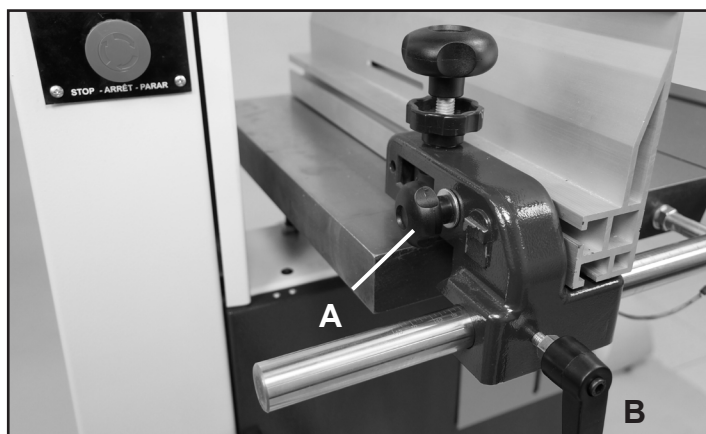

FIGURE 6
2. Slide the Fence Carrier Assembly (#9E) onto the fence's guide rail. Fig. 6.
3. Slide the Rip Fence (#18E) onto the fence carrier, and lock it in place by tightening the fence lock Knob (#7E) which is located on the carrier, opposite side to the fence. Fig. 6, A.